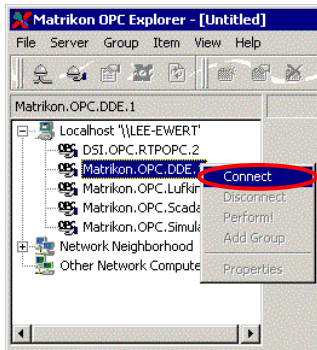

Figure 4-2. Right-click the DDE server and select Connect.
2. Right-click *Matrikon.OPC.DDE.1* and select **Connect** from the shortcut menu that is displayed (Figure 4-2).
The Write Values dialog box (Figure 4-2) appears.